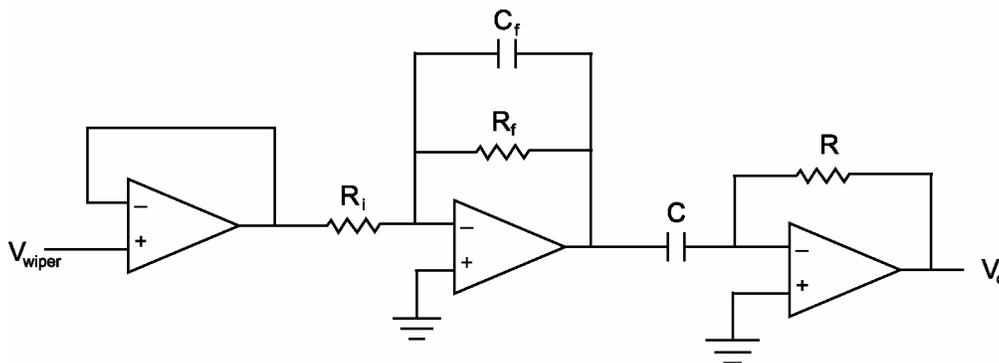
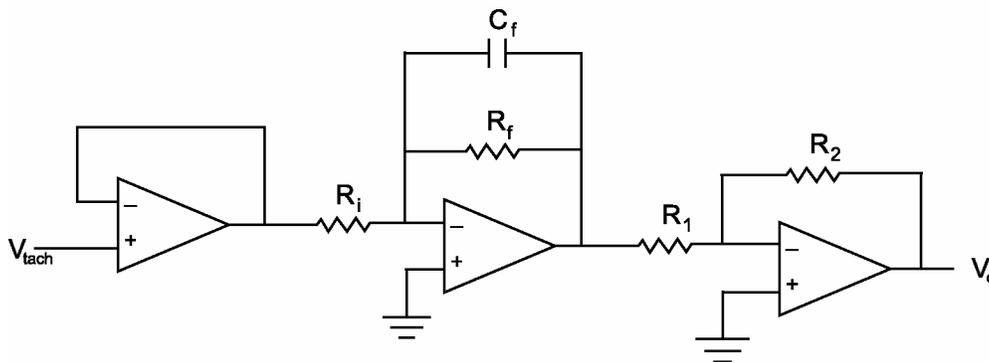

Figure 1: Buffer amplifier filter differentiator circuit.
Figure 2: Buffer amplifier filter inverter circuit.
where V_{in} is the input voltage in volts, θ is the angular position of the wiper in degrees, and θ_{dz} is the angle of the dead zone in degrees. For Equation (1) to be true, we must prevent current from flowing through the wiper (i.e. the input impedance of the circuit the potentiometer is connected to must be very large). One effective way of ensuring that no current is drawn from the wiper is to use an op-amp as a buffer (see the first op-amp in the circuit of Figure 1). As you may recall, one of the properties of an op-amp is that its inputs have high input impedances. Therefore, the buffer circuit uses the op-amp to provide the voltage and current necessary to drive the remainder of the circuit while it matches the voltage of the wiper connected to its non-inverting input. A buffer is not required if the data acquisition card of the computer or a digital multimeter is used to measure the wiper voltage since these devices are designed to have very high input impedances.
The resistive materials used in most potentiometers are wire windings. As the wiper moves across these windings high-frequency electrical noise is produced. Therefore, it is especially important to filter the signal from the wiper using a low pass filter (see second op-amp in Figure 1) if the circuit accepting the signal is sensitive to high-frequency noise. However, apart from the noise produced during motion, a potentiometer is a very useful tool to measure angular position.
In addition to providing angular position, potentiometers can be used to measure angular velocity using an external op-amp circuit like the one shown in Figure 1. The first stage of the circuit buffers the output of the potentiometer so as not to draw current from the wiper of the potentiometer. The second stage is a low pass filter designed so that the high frequency noise generated by the motion of the wiper will not be transmitted to the third stage. The third stage is a differentiator circuit that differentiates the angular position given by the potentiometer and outputs angular velocity. If the signal from the potentiometer were sent to this last stage directly, without the low-pass filter, the high-frequency noise produced by the wiper motion would be amplified much more than the desired signal from the potentiometer and erratic velocity measurements would result.
Although the tachometer is a convenient way to measure angular velocity, it does have drawbacks. First of all, the voltage produced by the tachometer must be read by a device with a high input impedance so that the tachometer's output is not altered by the circuit the tachometer is connected to. In addition, the internal brushes of the tachometer create high-frequency noise as they run along the commutator ring. Finally, the voltage produced by the tachometer is very small at slow speeds and, therefore, usually needs an external amplifier circuit. In light of these facts, it is often wise to buffer, filter, and amplify the signal from a tachometer rotating at low speeds using a circuit like the one shown in Figure 2. Note that the last op-amp in this circuit rectifies the inverted signal from the filter.
In the following lab you will be required to design and build the circuits of Figure 1 and Figure 2 above. This pre-lab is designed to help you design the circuits in the least amount of time possible. To that end, solve the following problems on a separate piece of paper:
12. Design and build a circuit of the form depicted in Figure 1 above that will differentiate the potentiometer signal: resulting in an angular velocity measurement. Make sure that the low pass filter has a cutoff frequency that is at least twice the input frequency and that the overall gain of the circuit limits the output signal amplitude to less than five volts. Record the values of your circuit components below:
17. Design and build a circuit of the form depicted in Figure 2 above that will filter and amplify the signal from the tachometer. Again, make sure that the low pass filter has an appropriate cutoff frequency and the overall gain of the circuit limits the tachometer output amplitude to less than five volts. Record the component values of the circuit below: